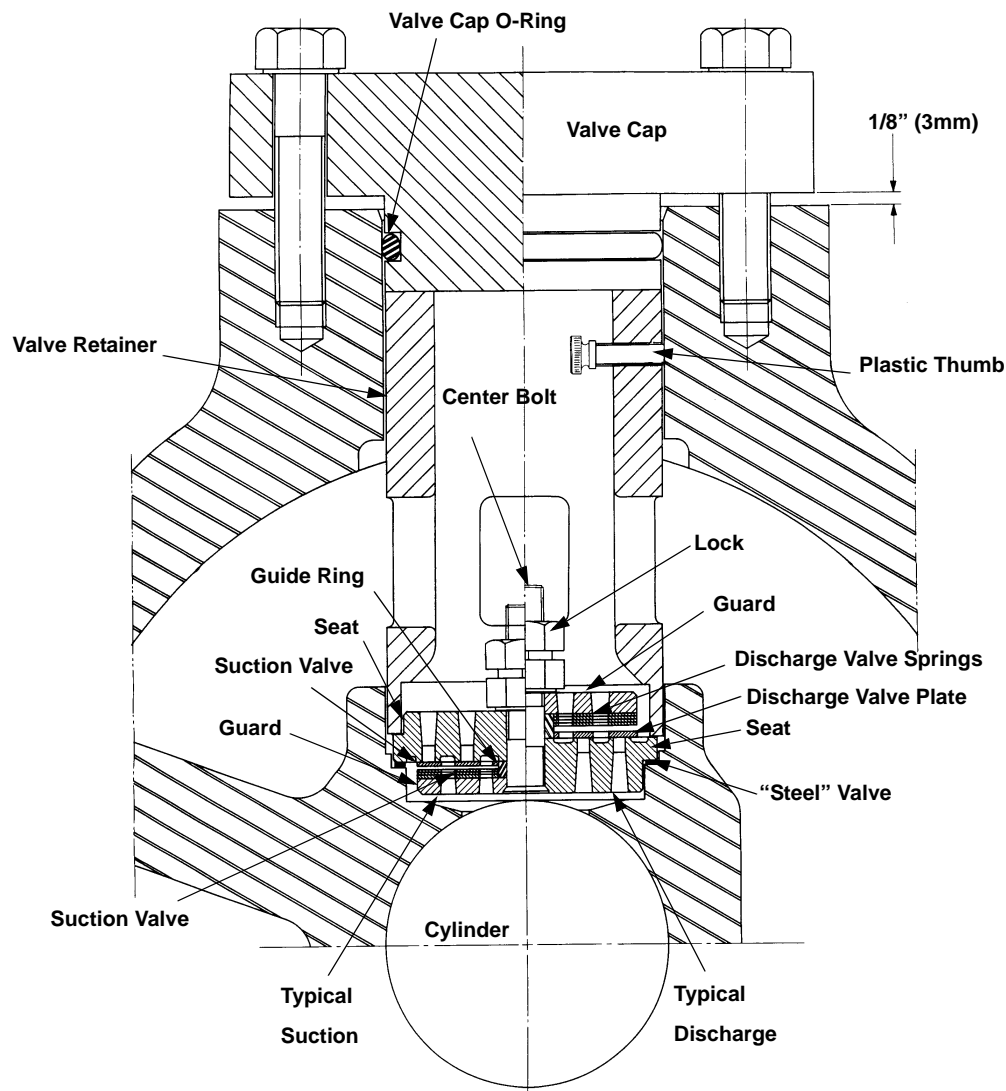

FIGURE 5-19 TYPICAL VALVE ASSEMBLIES
1. Slightly loosen all of the bolts on each valve cap. With all the bolts loose, the cap should stay in its original position. If it pushes out on its own accord-stop! Take steps to completely vent the cylinder. See Caution above. A typical valve assembly is shown in Figure 5-19 on page 5-33.